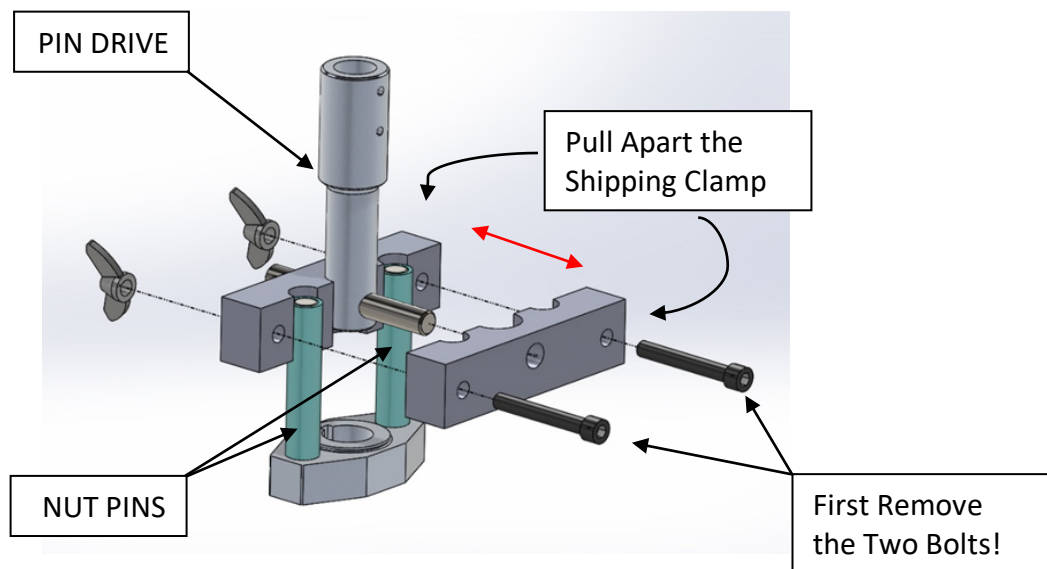
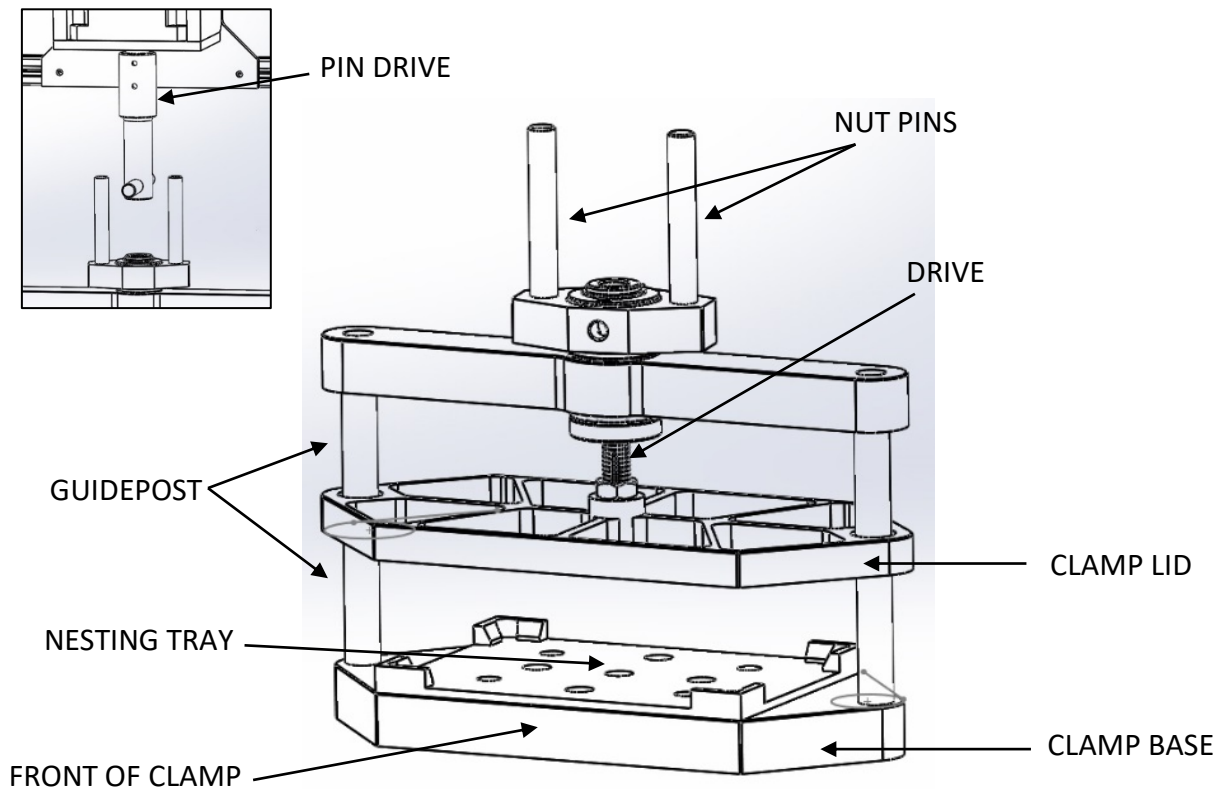

Figure 1 – Removal of Shipping Clamp
Figure 3 - HG-800 Geno/Grinder, Clamp Mechanism
- 5. Important!!! Remove the shipping clamp from Clamp Mechanism. (Figure 1)**
The power (OFF/ON) switch and power cord receptacle are located on the rear of the unit (Figures 3). The detachable power cord should be plugged firmly into its inlet, then into an electrical outlet. Make sure that the electrical outlet is easily accessible in case it becomes necessary to unplug the unit. For 115V/60HZ use, a 3-prong outlet is recommended. The 230V/50HZ power cord has a standard European 2-prong plug, make sure the cord and plug conform to local electrical codes.
The clamp is the most critical component of the HG-800 Geno/Grinder, as it must securely hold the titer plate firmly in place. The up-and-down motion of the clamp is extremely vigorous (Figure 3). **Note, remove shipping clamp before running, as shown in Figure 1.**
3. A new titer plate is picked up by the robotic arm and placed in the HG-800 Geno/Grinder Clamp Mechanism (Nesting Tray). (Figure 3)